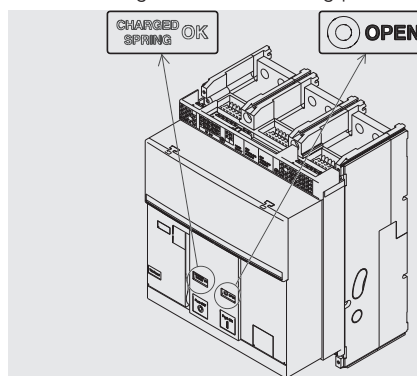

Figure 20
3. Check that the circuit-breaker is open (open/closed signalling device "O - OPEN"), and check that the springs are charged (springs signalling device "yellow - CHARGED SPRING") as indicated in Figure 20.